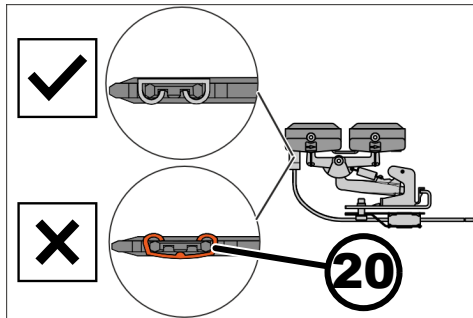

Fig. 85: Check the plug-socket connection to the sliding contact for correct seating and function after each plugging process.
2. Check insulation sleeves for tight fit. Ensure correct plug-socket connection (see Fig. 85).